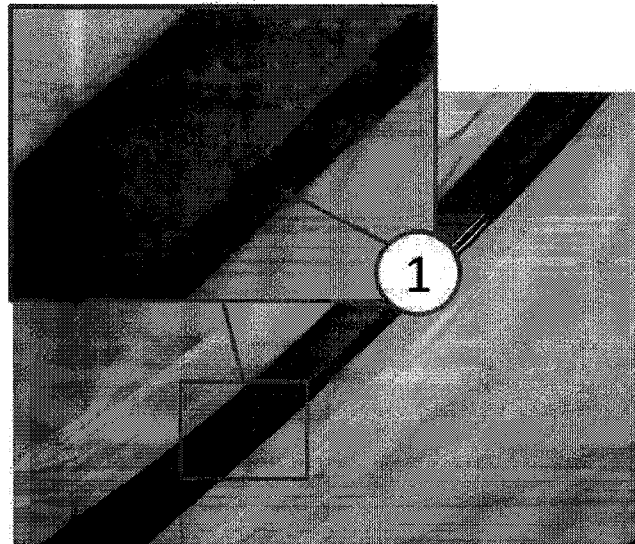

Fig. 3 Wet Sanding
2. Using Meguiars W8207 backing pad or equivalent, wrap Meguiars unigrit wet sandpaper or equivalent around it and block sand after wetting the defect area with soap and water. The defect should be sanded in three steps beginning with Meguiars unigrit 1500, followed by Meguiars unigrit 2000 and finish sanded with Meguiars 2500 grit or equivalent (Fig. 3).